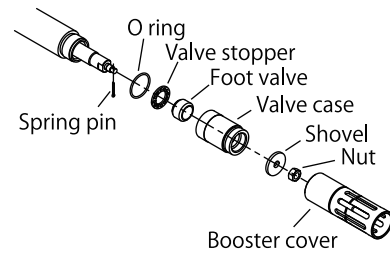

Fig. 4
- 2) Set a pipe wrench on the booster cover. Unscrew the suction tube and remove the spring pin, nut, and shovel. (Fig. 4)